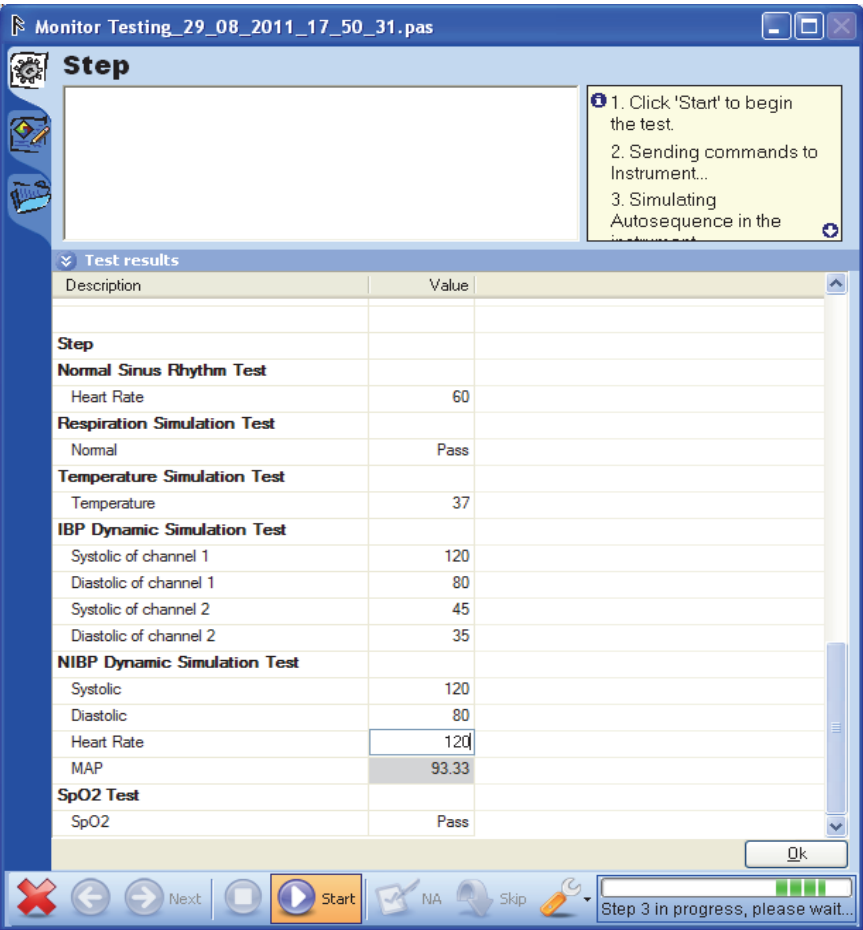

Figure 5-10. Autosequence Test Results Window
- 4. Click  to stop the autosequence and open the test results window shown in Figure 5-10.